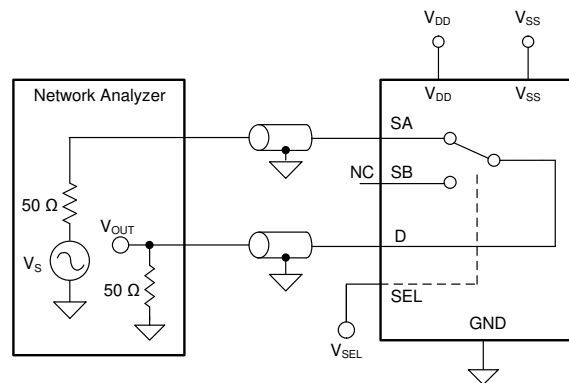

FIG 7-10. Bandwidth Measurement Setup
Bandwidth is defined as the range of frequencies that are attenuated by < 3 dB when the input is applied to the source pin (Sx) of an on-channel, and the output is measured at the drain pin (D) of the TMUX6136. FIG 7-10 shows the setup used to measure bandwidth of the mux. Use 式 4 to compute the attenuation.